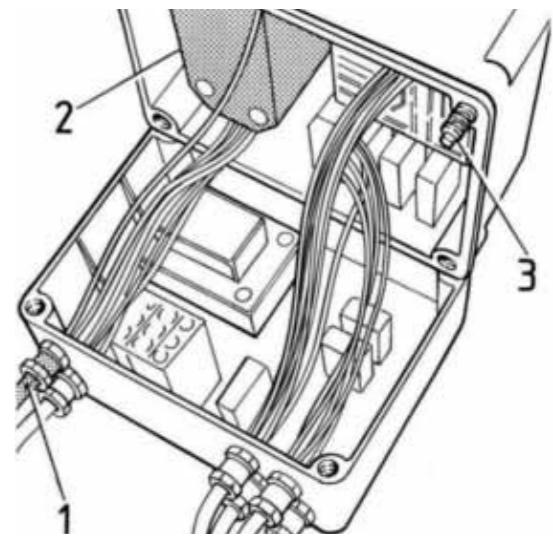

Figure 6
If it is impossible to position the control console close enough to use the cable provided, the whole cable must be re-done as follows (see figure 6):
- The power cable must be connected to the lift distribution board, passing it through the hole provided (1) until it reaches the terminal block marked with the power supply voltage (2 - fig. 6). The three phase wires must be fixed to the respective terminals marked by the symbols L1, L2 and L3. The earth wire must be connected to the yellow-green earth terminal.
- Complete the connection of the control unit to the distribution board and close the cover by means of the screws (3 - fig. 6).